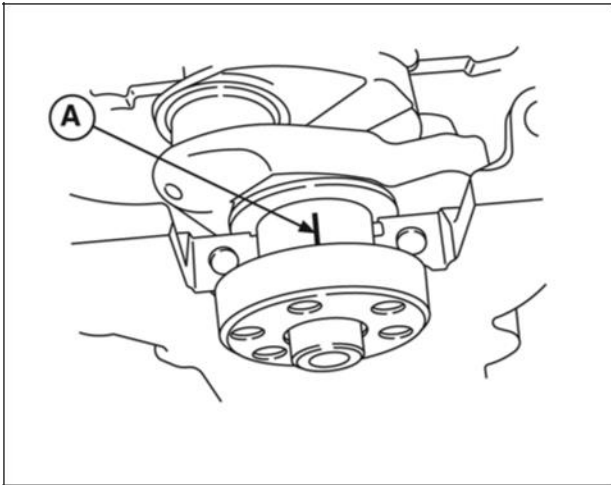

Figure 4
2. Lay a strip of plastigage lengthwise on journal (A, Figure 4).